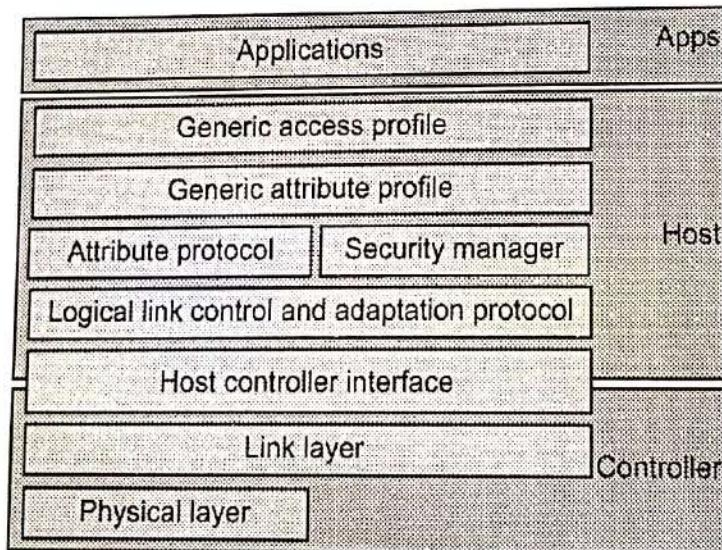

Fig. 3.2.2 : BLE protocol stack
- Fig 3.2.2 shows BLE protocol stack.